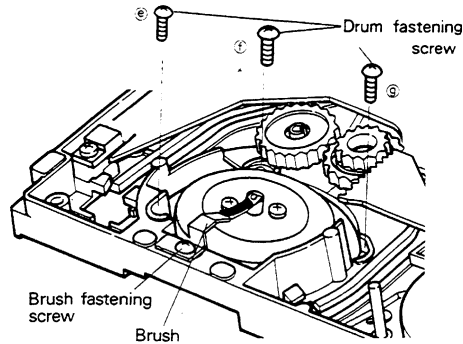

Fig. 2-3-2
- Disconnect the roller units connector (CP) from the control PCB.
- Unscrew the brush fastening screw and remove the brush as shown in Fig. 2-3-2.